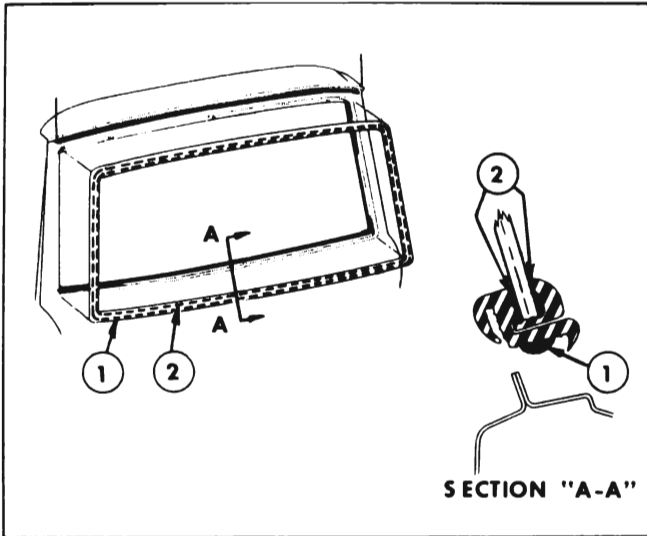

Figure 13-86 — Back Window Installation
4. Apply a continuous ribbon of medium-bodied sealer (approximately 1/4 inch thick) to base of rubber channel, as indicated at "1" in Section "A-A", Figure 13-86, completely around rubber channel.
7. Using a pressure type applicator, apply weatherstrip adhesive (black) between rubber channel and glass on inside and outside of glass, as indicated at "2" in Figure 13-86, completely around glass and rubber channel. Application of adhesive should be continuous with no skips.